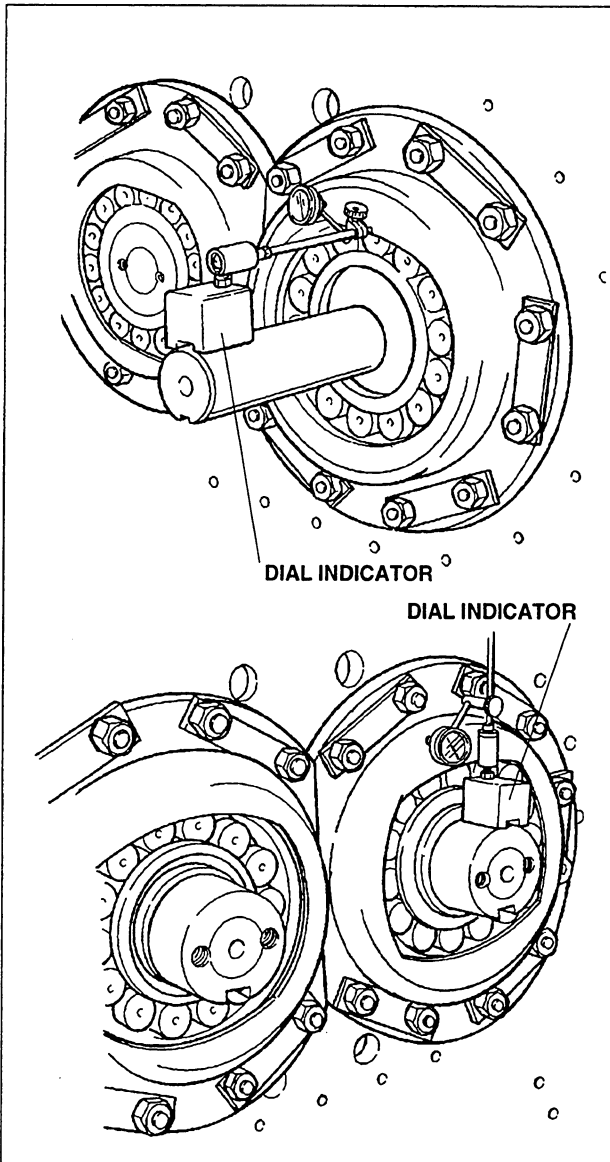

Figure 4-11. Checking Shaft End Play
7. Repeat steps 3 thru 6 to install shaft (48). Before beginning step 3, be sure to check the installed bearing roller to outer race clearances as described in Step 2C.
8. Install a dial indicator as shown in Figure 4-11 and check shaft end play on shaft (14). Install the dial indicator on the other end of shaft (48) and check end play in the same manner. End play should be within the limits listed in Table 4-4.